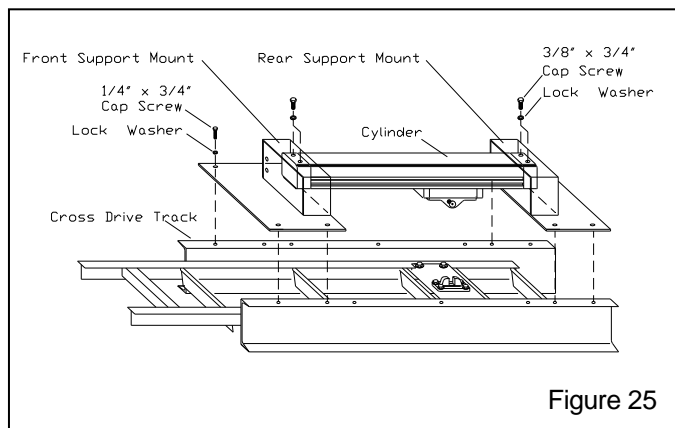
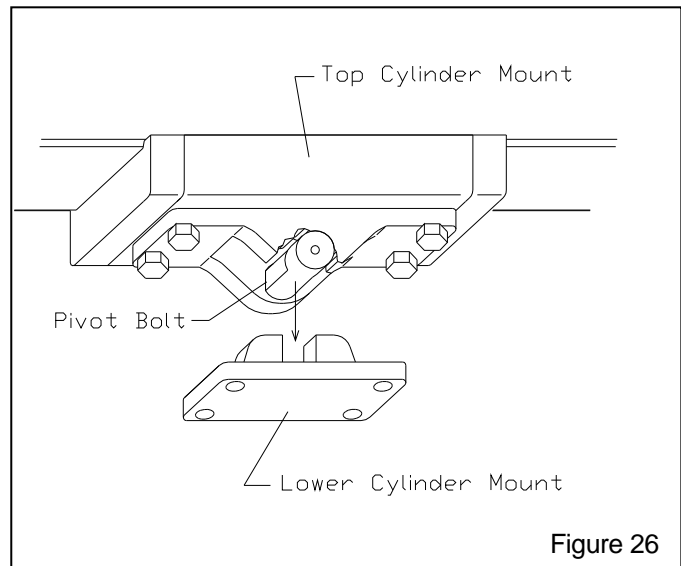

Figure 25
Figure 26
2.8.2.3 Loosely assemble the cylinder assembly to the front and rear support mounts, and lay the cylinder assembly into position as shown in Figure 25. The top cylinder-mount pivot bolt is flat on two sides. The bolt fits into the lower mount as shown in Figure 26.